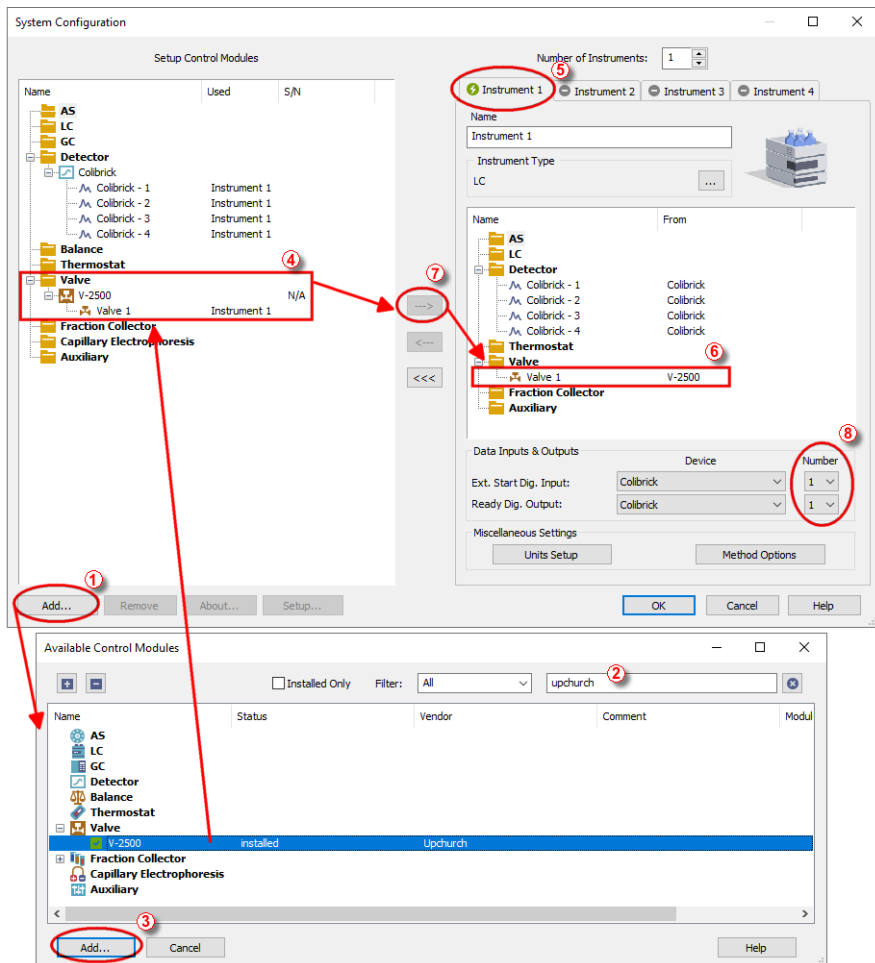

Fig 2: System Configuration
- Press the **Add** button ① (see **Fig 2** on pg 4.) to invoke the **Available Control Modules** dialog.
- You can specify the searching filter ② to simplify the finding of the driver.
- Select the **V-2500** item and press the *Add* ③ button.